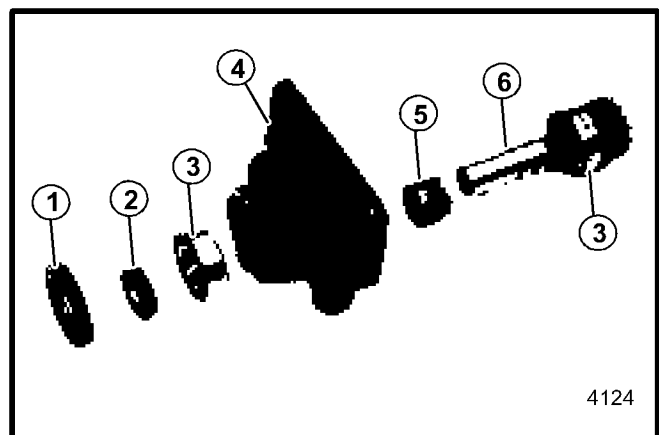

FIGURE 25
5. Separate all of the components (press the bearings off of the shaft and out of the case half if they need to be replaced). Clean the components and check for wear, replace parts as required (See FIGURE 25).